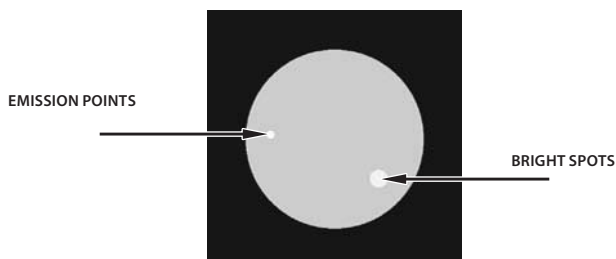

Figure 3-5. Bright Spots and Emission Points
(1) Bright Spots. A bright spot is a small, non-uniform, bright area that may flicker or appear constant (Figure 3-5). Not all bright spots make the MUNVM returnable. Cup your hand over the objective lens to block out all light. If the bright spot remains, you will need to return the MUNVM to the manufacturer. Bright spots typically disappear when all light is blocked out. Verify that any bright spots are not simply a bright area in the scene you are viewing. Bright spots are acceptable if they do not interfere with the operator's ability to view the image or to perform the mission.
(2) Emission Points. A steady or fluctuating pinpoint of bright light in image area that does not go away when all light is blocked from the objective lens of the monocular (Figure 3-5). The position of an emission point within the image area does not move.